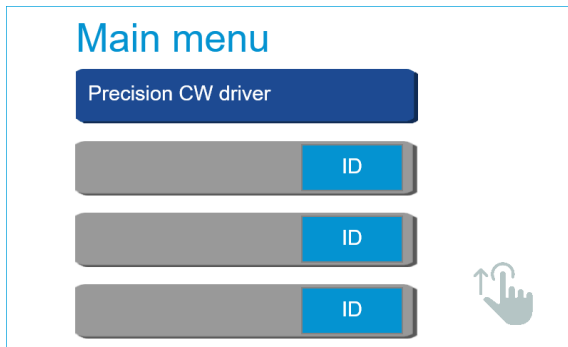

Figure 1 – Main menu
3. Select “Precision CW driver” in Main menu on touchscreen (fig. 1), you may return to the main menu by pressing  button.
4. Tap the ID button in Main menu on touchscreen (fig. 1).